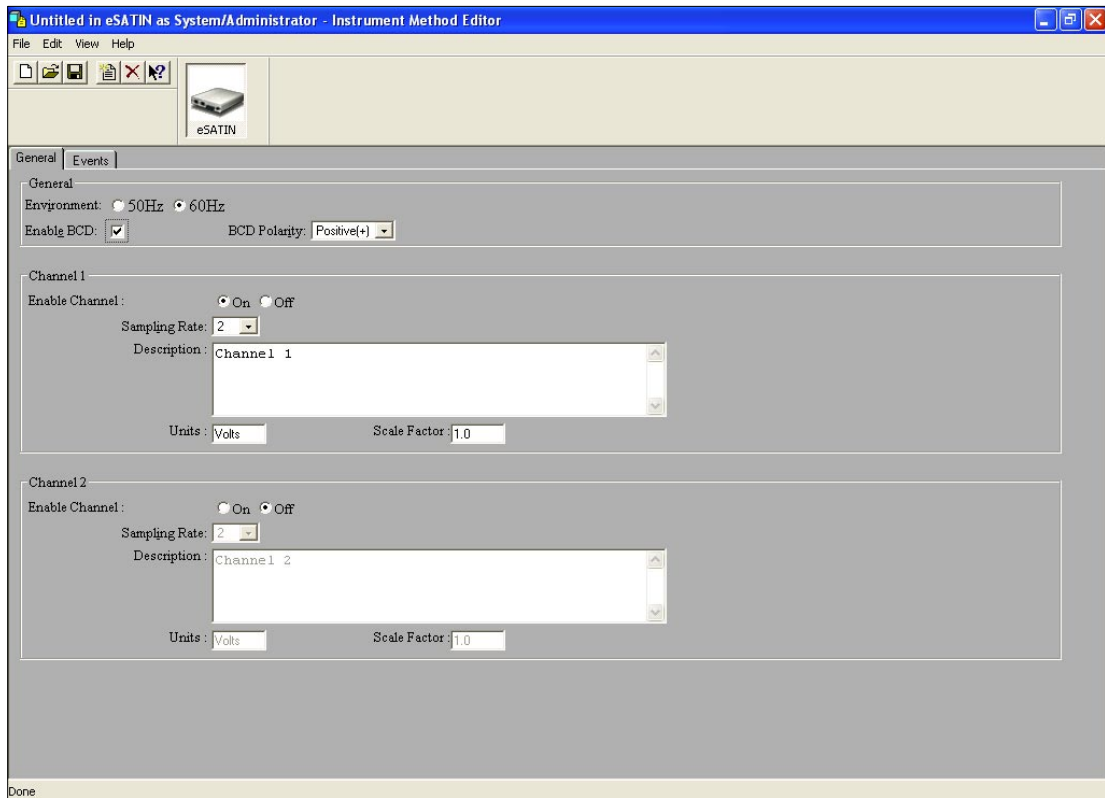

Figure 3-9 Instrument Method Editor, e-SAT/IN General Tab
5. The Instrument Method Editor appears. This window has a selection of instrument icons located in the window header. Click **e-SAT/IN**. The e-SAT/IN General tab appears (Figure 3-9).